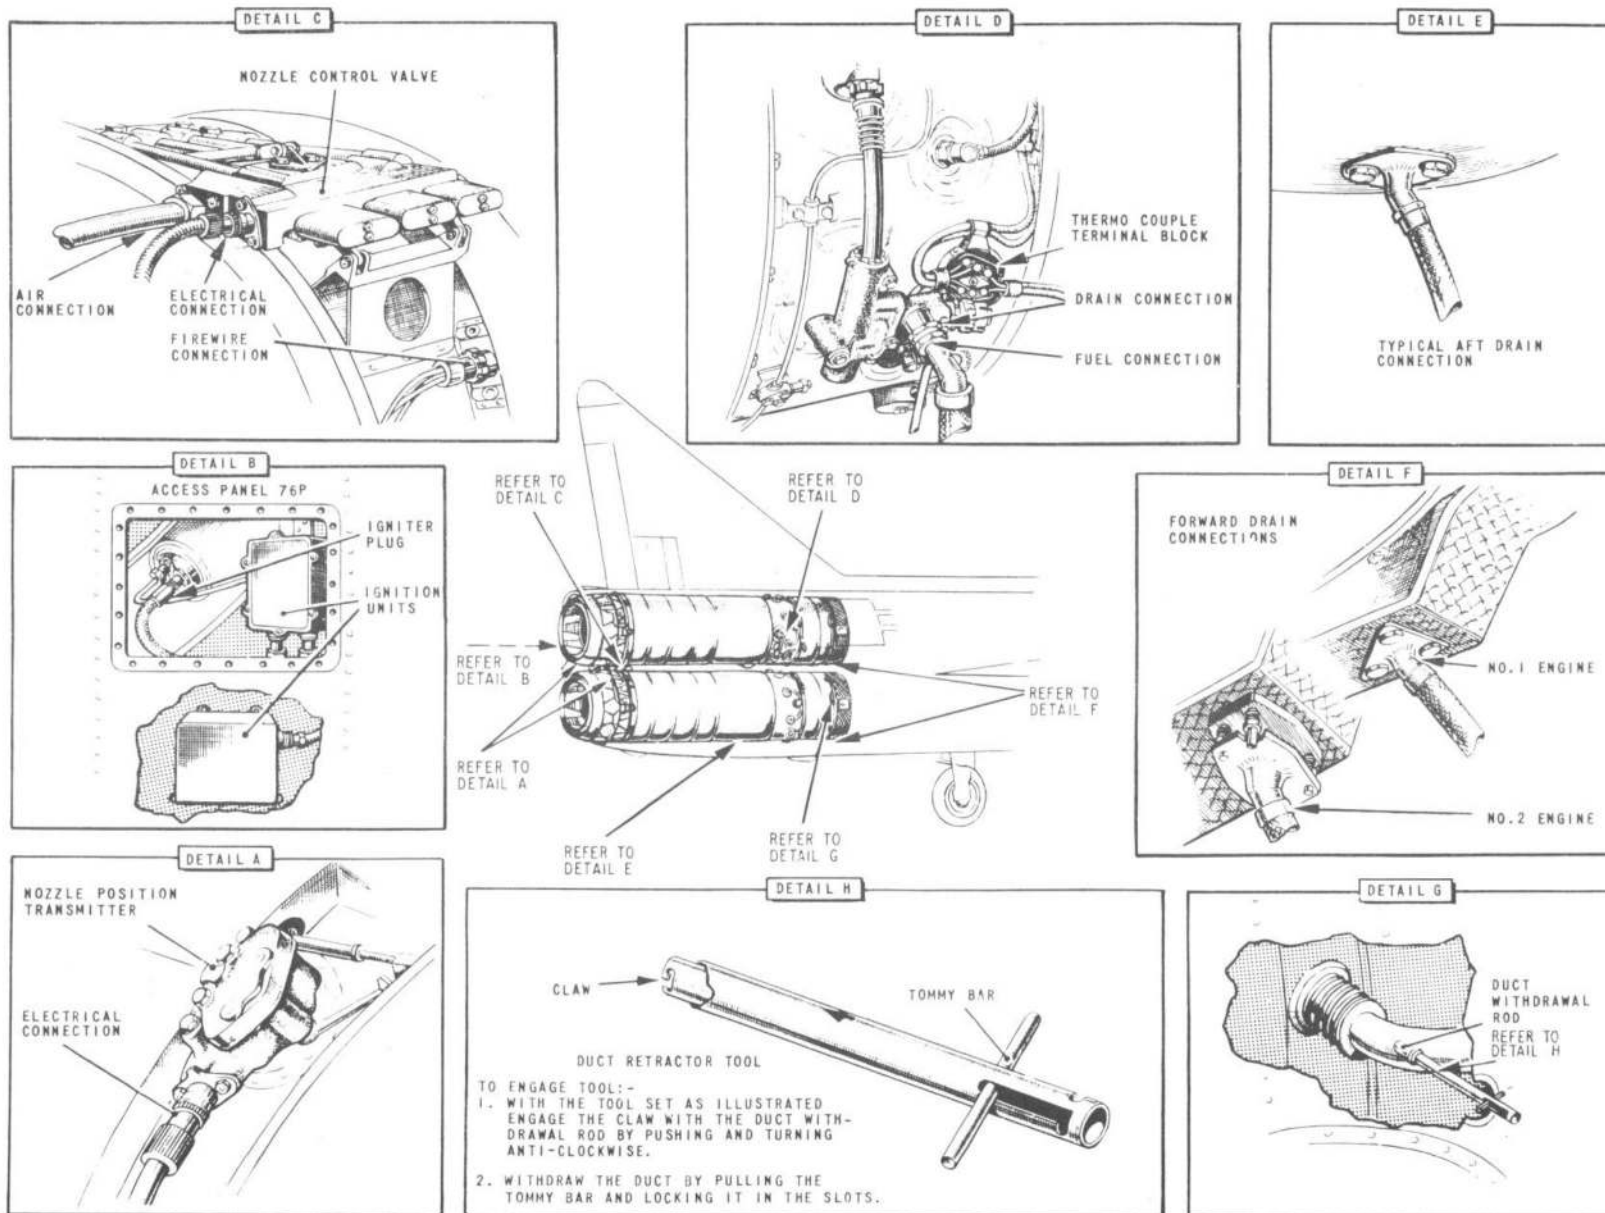

FIG.19. CONNECTIONS TO JET PIPE
Assembly (fig.19, 20 and 21)
and drainpipe (fig.19, detail D; access panel 76S).
(12) Connect both forward and aft reheat fuel drain connections (fig.19, detail E and F; access panels 72S and 76S).
(13) Connect all electrical and Firewire cables (fig.19, details A, B, C and D).
(14) Release the port and starboard cooling air ducts and remove the retractors (fig.19, details G and H).
(15) Connect the compressor air pipe to the nozzle control valve (fig.19, detail C).
(16) Carry out the fuel pipe pressure test (para.28 or 29, as applicable).
(17) Check that all connections are correctly made and, where applicable, locked.
(18) Fit all skin access panels and No.1 engine hatch.
Removal (fig.19, 20 and 21)
(3) Disconnect the forward and aft fuel drain hoses from the reheat pipe (fig. 19, details E and F; access panels 72S and 76S).
(4) Disconnect the reheat fuel supply pipe and drainpipe at the reheat pipe (fig. 19, detail D; access panel 76S).
(5) Withdraw the port and starboard cooling ducts using the retractor tools (fig. 19, details G and H; access panels 74P and 74S).
(6) Disconnect the electrical cable to the jet pipe thermocouple terminal block (fig. 19, detail D; access panel 76S).
(7) Disconnect the H.T. lead to the igniter plug (fig. 19, detail B).
(8) Unlock access panels 88P and 88S using the T-spanner, hinge them back, and secure them by inserting ¼ in. dia. quick-release pins through the holes in the lower edges of the panels and the fuselage skin.
(9) Disconnect the electrical cable from the nozzle position transmitter (fig. 19, detail A).
(10) Disconnect the electrical cable from the nozzle control valve (fig. 19, detail C).
(11) Disconnect the electrical cable from the Firewire system connection on the nozzle cowling (fig. 19, detail C).
(12) Disconnect the compressor-air delivery pipe at the nozzle control valve (fig. 19, detail C).
(13) Using the roller key, lower the reheat pipe forward rollers on to the fuselage rails (access panels 76P and 76S).
Assembly (fig. 19, 20 and 21)